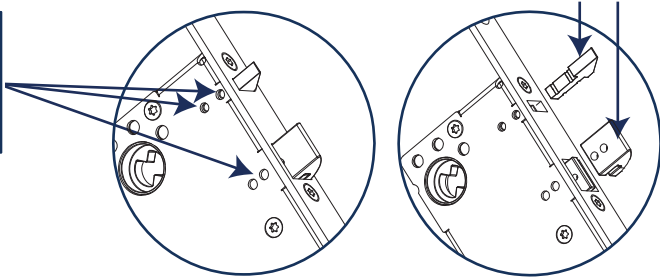

FIG. 2
1. Open the lid on the lock case ( see fig 2 ). Note that it might also be necessary to remove the forend to reduce pressure load on the handle spring.